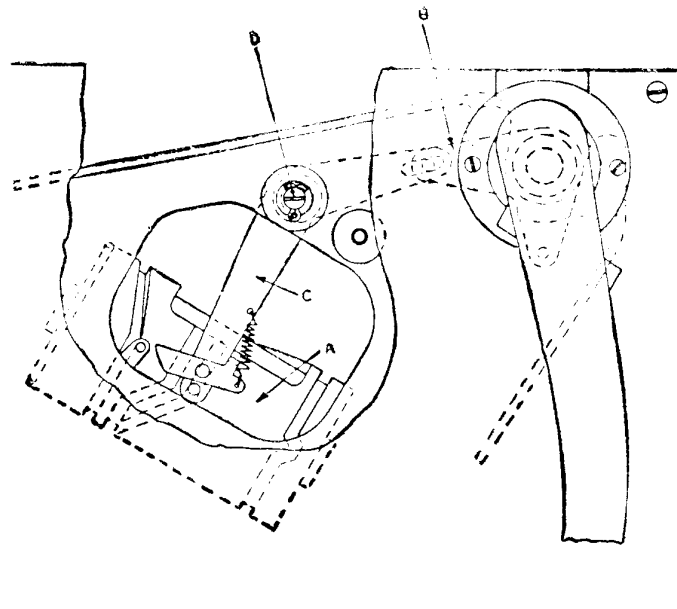

FIG. 17. OPERATION OF PICKUP ARM.
Should the dropping position of the needle require adjustment, the turntable should be first turned by hand to bring the pickup from the loading position to the point where the needle has dropped to within  $\frac{1}{16}$ " of the record. The screw marked "D" in Fig. 17, which is accessible through a hole in the unit plate should then be turned either to the right or left, according to requirements. A quarter of a turn in either direction will give the maximum adjustment obtainable.
- (c). The levers " B " and " C " in Fig. 17, are free to move, and that the pin at the end of lever " C " is not rubbing on the bottom of the cam grooves.